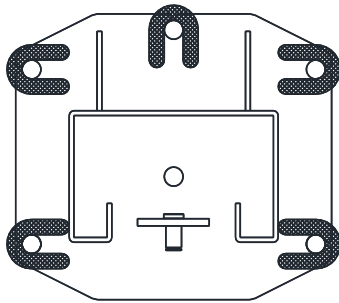

Fig. 3 – Column Shimming
- 8) Shim both columns to plumb using the shims provided as shown in **Fig 3**. DO NOT shim more than 1/2" at any given point. Use a level no less than 24" in length to plumb columns.
- 13) Check idler column shimming. Use additional shims (*see Fig 3*) to remove any gaps that may have been created while installing overhead beam. Tighten anchor bolts and re-check column for plumb. Torque to 150 foot-pounds.